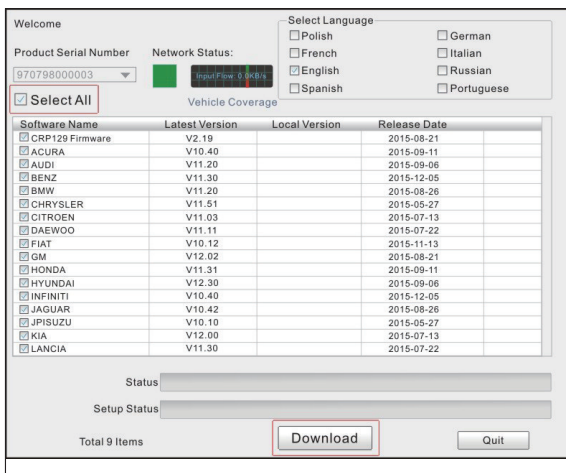

Figure 7-6
10. Reopen the FX3000 update Suite and select the updates you would like to perform or click [Select All] and click [Download]. (Figure 7-6)